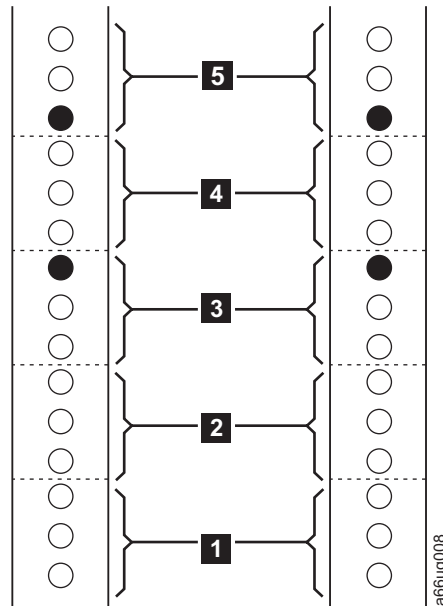
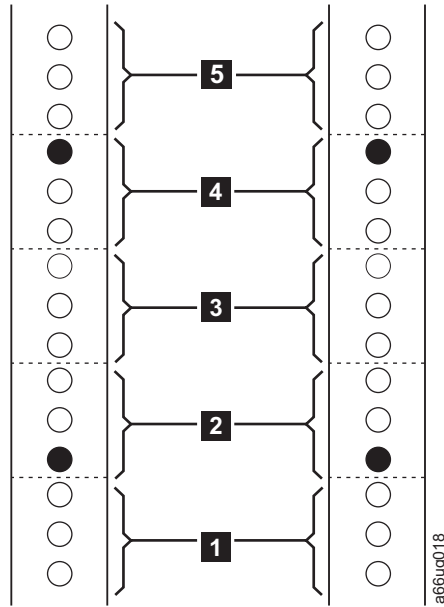

Figure 3-14. EIA identification and rail stud locations for FRONT vertical rack rails
Figure 3-15. EIA identification and rail stud locations for REAR vertical rack rails
An industry-standard rack will have 3 mounting holes for each EIA increment (see Figure 3-14 on page 3-16).
1. Using a pencil, make a mark below the first hole ( **1** in Figure 3-14 and **1** in Figure 3-15 on page 3-17) in each of the five EIAs you've selected for the rails in each vertical rail in your rack.
2. Locate and mark the holes that will receive the rail studs as indicated by the black filled circles in Figure 3-14 and Figure 3-15 on page 3-17. The rail studs are located on the front and back of each rail included in the Rack Mount Kit.
- Top hole of the third EIA ( **3** in Figure 3-14).
- Bottom hole of the fifth EIA ( **5** in Figure 3-14).
- Bottom hole of the second EIA ( **2** in Figure 3-15 on page 3-17).
- Top hole of the fourth EIA ( **4** in Figure 3-15 on page 3-17).
- Top hole of the first EIA (see Figure 3-14 on page 3-16)
- Top hole of the second EIA in the vertical rack rails (see Figure 3-14 on page 3-16)